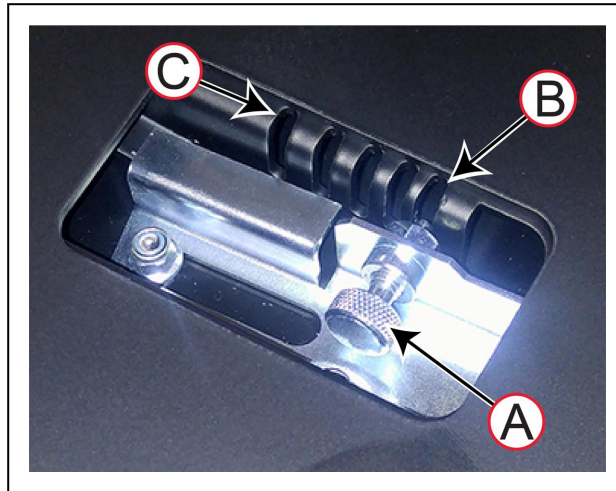

Figure 3-18 Adjusting the Height of the Docking Station Contacts
The height adjustment mechanism is on the underside of the docking station's floor plate, shown in Figure 3-18.
5. Pull out the pin (A) and slide it in the direction of (B) or (C) to select a different position slot. Adjust the position of the paddle as shown in Figure 3-18. The height changes by 4 mm for each slot.